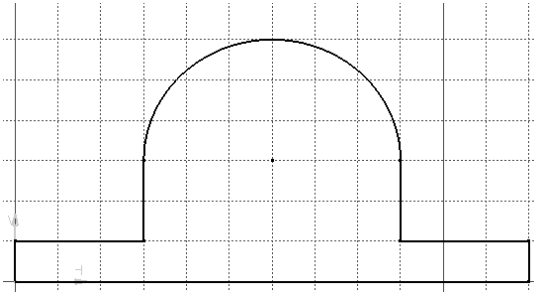

Figure 2-36 The sketch after drawing the outer loop
- Draw the sketch of the model using the **Profile** and **Circle** tools, refer to Figures 2-36 and 2-37.
The sketch, after drawing the outer loop, is shown in Figure 2-36. In this figure, the constraints are hidden for better visualization.